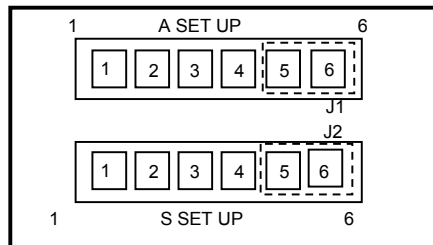

Figure 19
10. Position the jumpers on pins 5 and 6 of the **J1 (S SET UP)** and **J2 (A SET UP)** headers. (Refer to Figure 19)